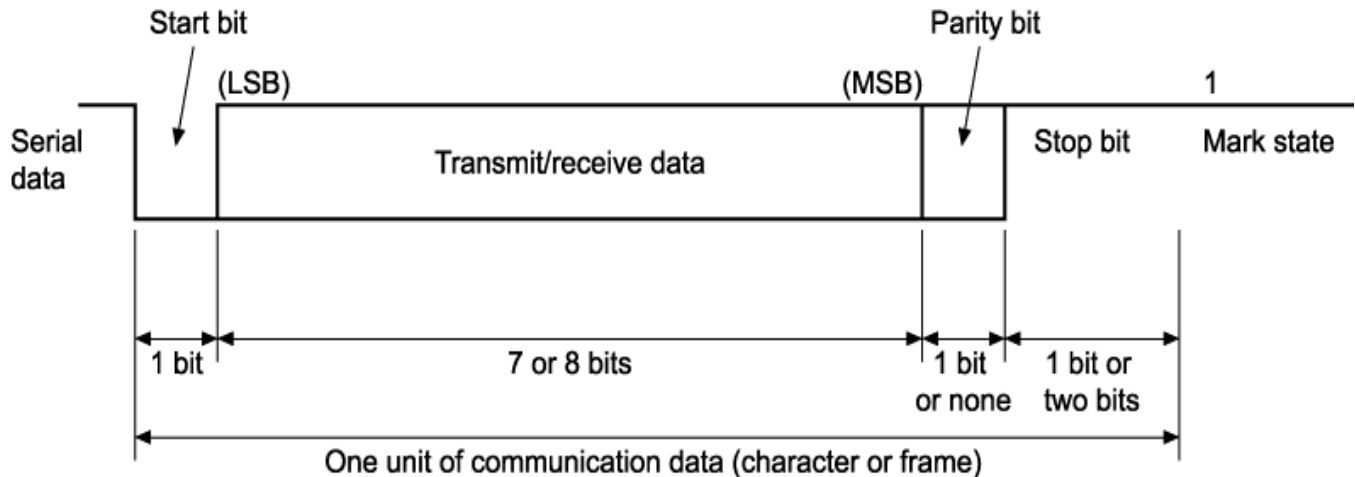

Figure 3 Data Format in Asynchronous Communications
- Figure 3 shows data format of asynchronous communications. In asynchronous communications, the communication line is normally maintained in the mark state ("High" level). SCI3 monitors communication line and starts serial communications when it detects the place which has become a space ("Low" level) to serve as a start bit.